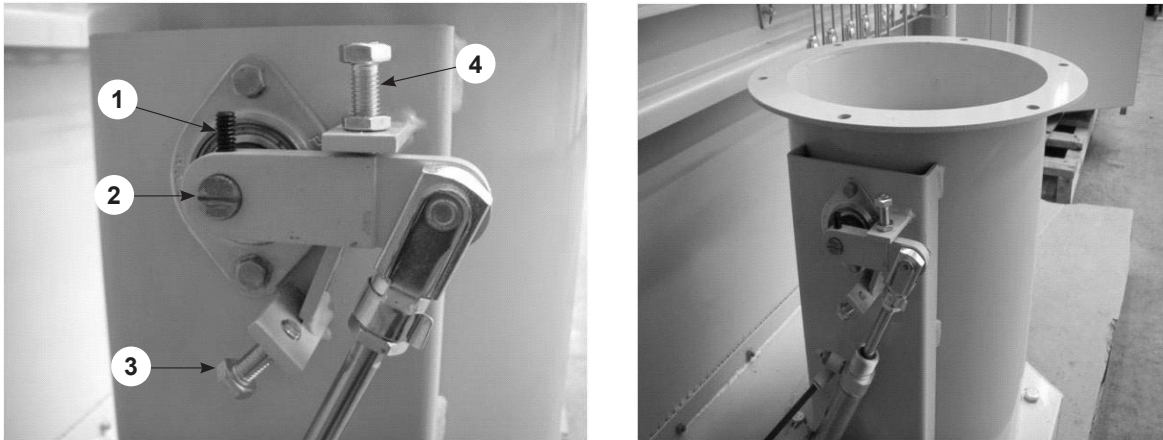

Figure 3-10 Damper Setting, Factory-Set Low Flow Position
See Figure 3-10. The damper is equipped with adjustable stops for high and low flow settings (3, 4). These stops limit the movement of the crank arm that is attached to the butterfly valve.
Figure 3-10 shows the damper in the factory-set low flow, or closed, position. The butterfly valve position is indicated by the indicator mark (2), which is shown in a horizontal position.